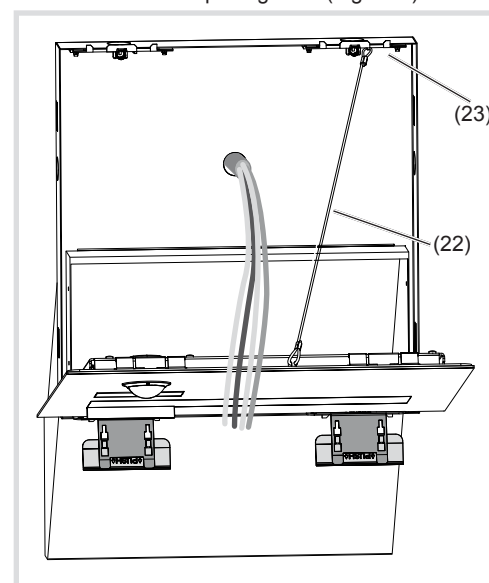

Figure 7: Installation position of video letter box front
(20) Opening tools
(21) Lower fastening elements
- Attach the loops of the safety rope (22) between the centre upper suspension of the letter box front and right upper fastening element (23) in the housing. Position the video letter box front to install on the opening tools (Figure 7).